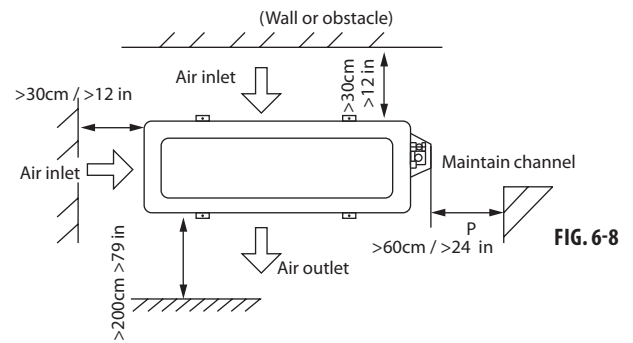
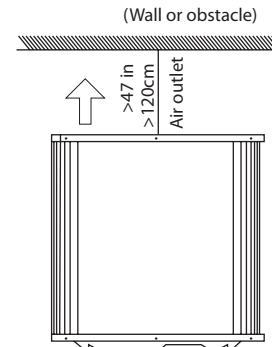

FIG. 6-8
FIG. 6-9
- The minimum distance between the outdoor unit and obstacles described in the installation chart does not mean that the same is applicable to the situation of an airtight room. Leave open two of the three directions. (Refer to Fig.6-7, Fig.6-8, Fig.6-9).